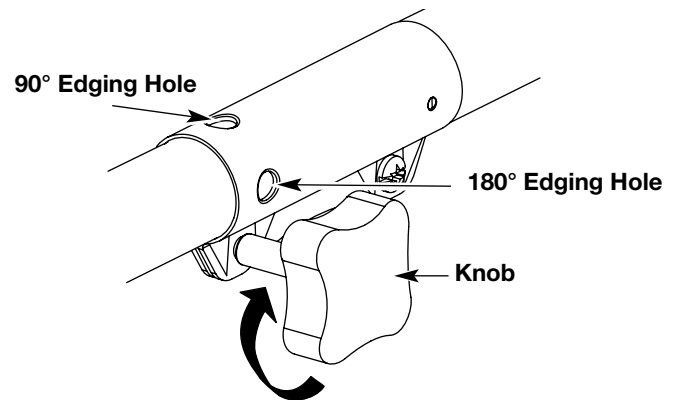

Fig. 3
4. Turn the knob clockwise to tighten (Fig. 3).
For edging when using the straight shaft trimmer add-on, lock the release button of the cutting attachment into the **90° edging hole** or the **180° edging hole** (Fig. 3).